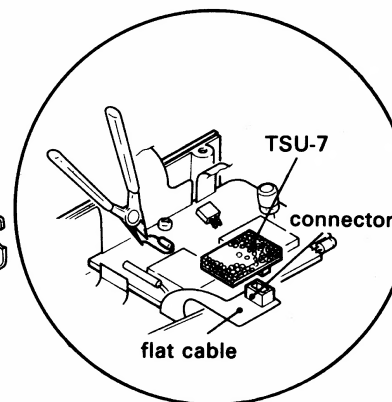
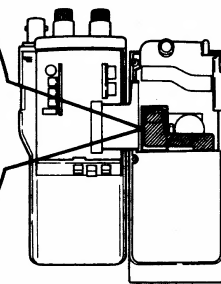

Fig. 4
Fig. 5
7. Remove the resistor using a pair of nippers, Plug the connector into the TSU-7, and attach the TSU-7 to the transceiver, as shown in fig.4, fig.5.